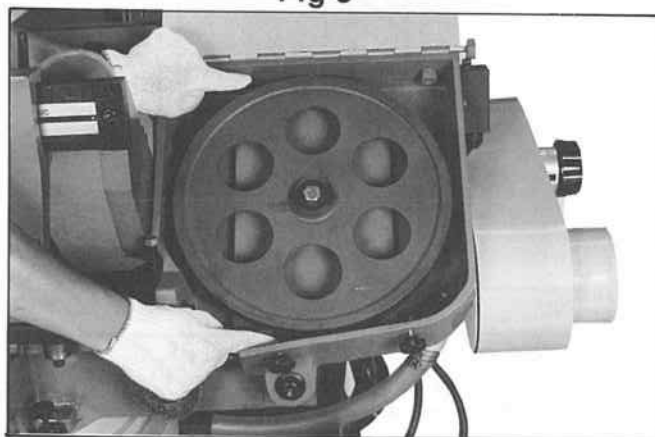

Fig 6
10. Put light tension on the blade and work it on both wheels, as shown in Fig. 6. MAKE SURE THAT THE BACK OF THE BLADE IS AGAINST THE WHEEL FLANGES OF BOTH WHEELS. THIS IS VERY IMPORTANT.